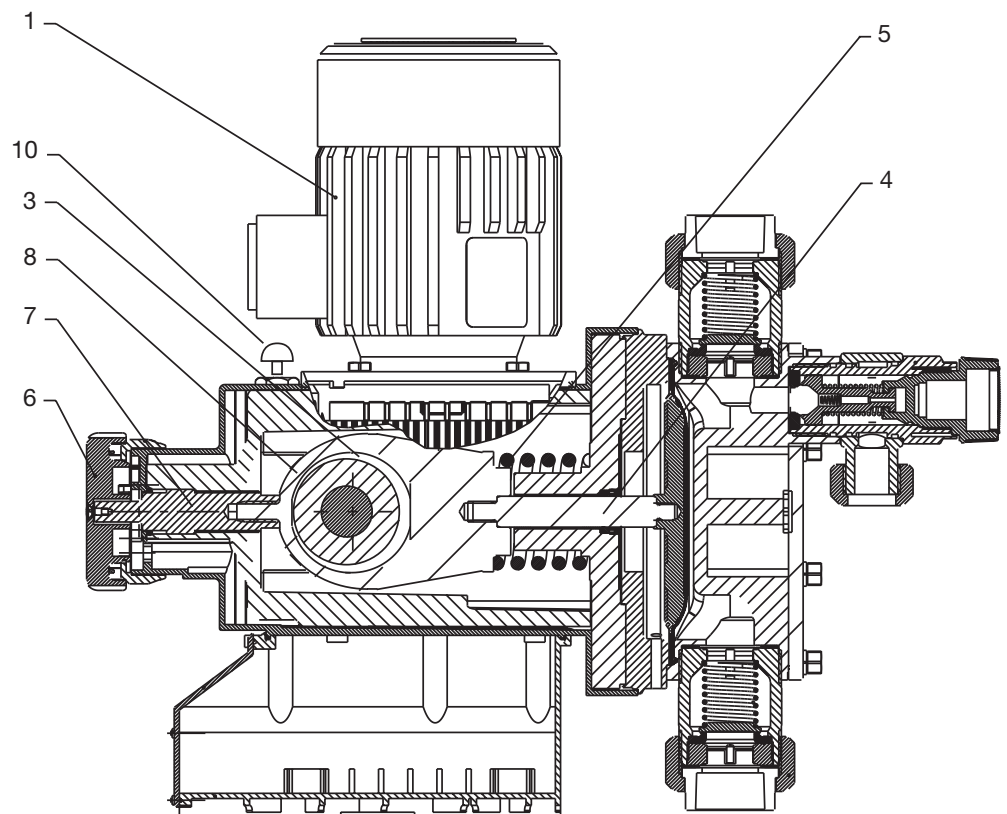

Fig. 4
- Pull the red plug for venting the gear unit during initial operation of the Sigma/ 3 metering pump (refer to Fig. 4, item 10)!